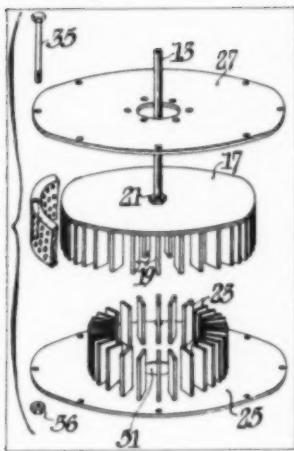

Fig. 26.
The horizontal mixer-settler shown in Figure 24 has individual stirrers with the settling phases flowing cocurrently (4). The two phases are pumped into the mixing chamber by the mixing paddle, the ratio of phases in the mixing zone being dependent upon the flow rates. The mixed fluids are thrown through porous plate (33) into the large cylindrical or cubic settling chamber to break the emulsion. The light fluid overflows through (69); the heavy fluid leaves through (65). In Figure 25 a pressure equalizing system is shown, attached to the heavy fluid exit. An adjustable valve at (f) may be used to control the effective height of the overflow in order to maintain the correct ratio of water layer to solvent layer within the bank. Figure 26 shows details of the stirring device.